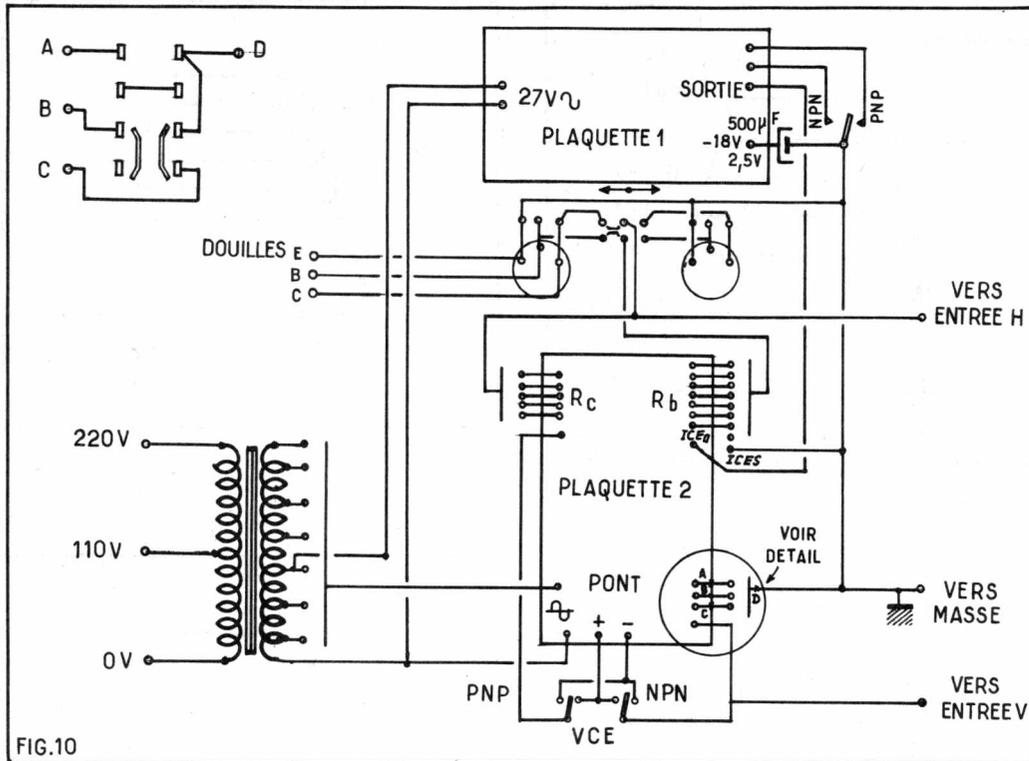

FIG. 10
E. — SCHÉMA GÉNÉRAL D'INTERCONNEXIONS (Fig. 10)